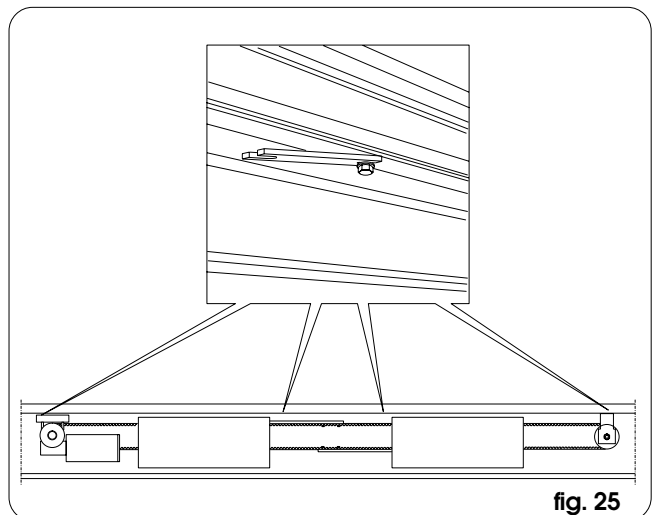

fig. 25
- Partially screw the 4 brackets to the end with holes, using 4 tie-screws, and position them after you have inserted the activation module, as shown in fig.25.